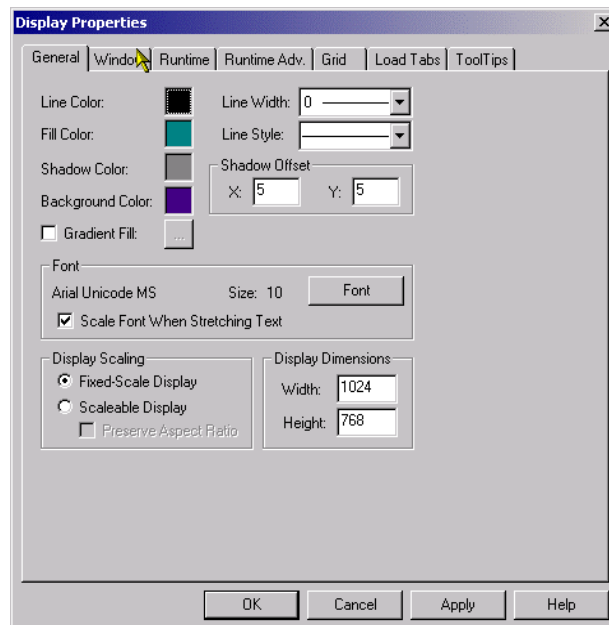

Figure 5.41
4. On the **General** tab set the parameters as shown in **Figure 5.41**. These configurations deal with the appearance of the display. Since this display will be a popup window, an important feature is the **Display Scaling**. By selecting the **Fixed Scale Display**, the window will be the size specified in the **Display Dimensions** section, and will not be scalable by the user while in Runtime.